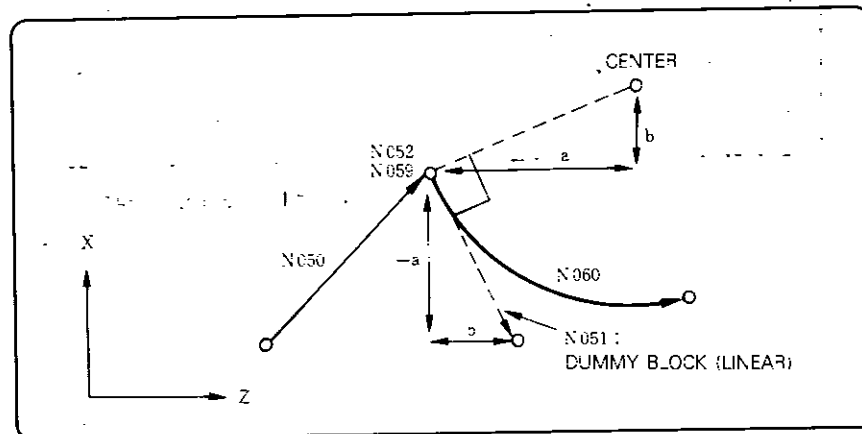

Fig. 2.12.44 Inserting the Dummy Block
**NOTE** When the dummy block includes circular interpolation, create the dummy block as shown in the following Fig. 2.12.44, and 2.12.45.